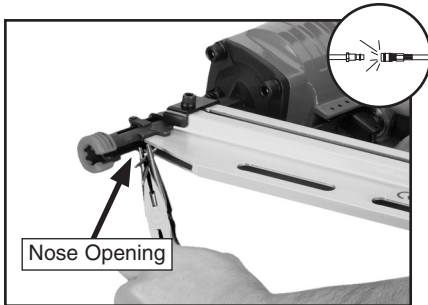

Figure 9. Nose opening for clearing a jammed nail.
4. Locate the opening in the underside of the nailer safety nose (see **Figure 9**).